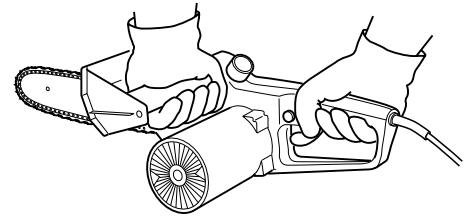

Figure 9 - Operate With Both Hands
6. **DO NOT OPERATE WITH ONE HAND** (See Figure 8). Use a firm grip with thumbs and fingers encircling both handles as shown in Figure 9.